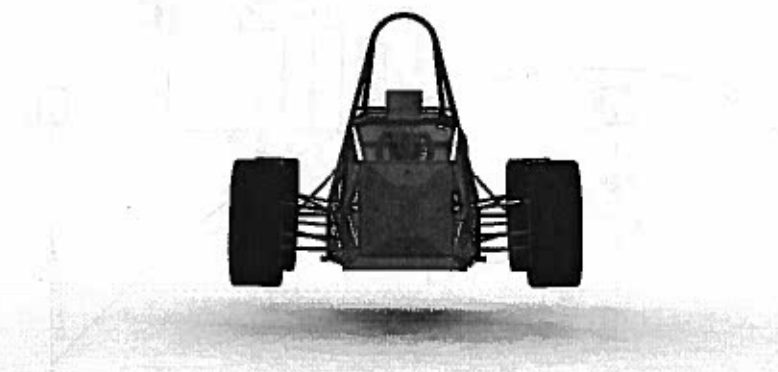

Figure 4: Full Vehicle, Front View
- *Figure 4 – Include a complete TSV wiring schematic per FH Rule S4.4.1 showing connections between all TS components. This should include accumulator cells, AIRs, SMDs, motor controller, motor, pre-charge and discharge circuits, AMD, IMD, charging port and any other TS connections.*
NOTE: Figure 4 is the most important diagram in the ESF